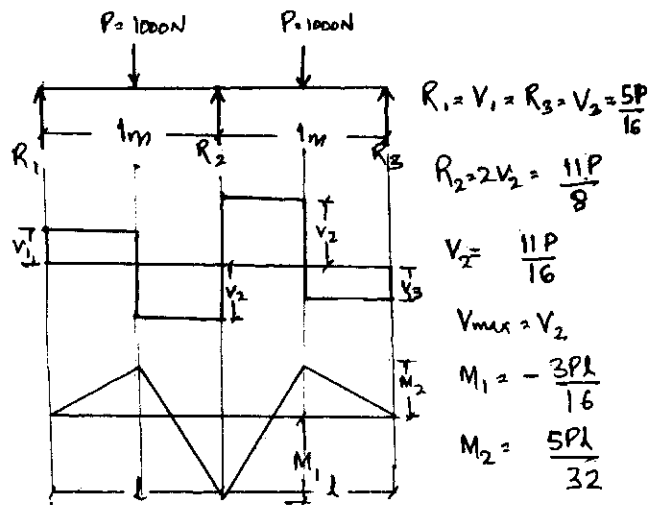

Fig. Q6(b)
b. Calculate  $R_1$ ,  $R_2$ ,  $V_1$ ,  $V_2$ ,  $M_1$  and  $M_2$  with usual notations and mark these values into the given Fig. Q6(b) where  $P = 1000\text{N}$  and  $l = 1\text{m}$ . Also find bending stress if  $I = 2235 \times 10^3 \text{mm}^4$  and  $D = 400\text{mm}$ . (16 Marks)